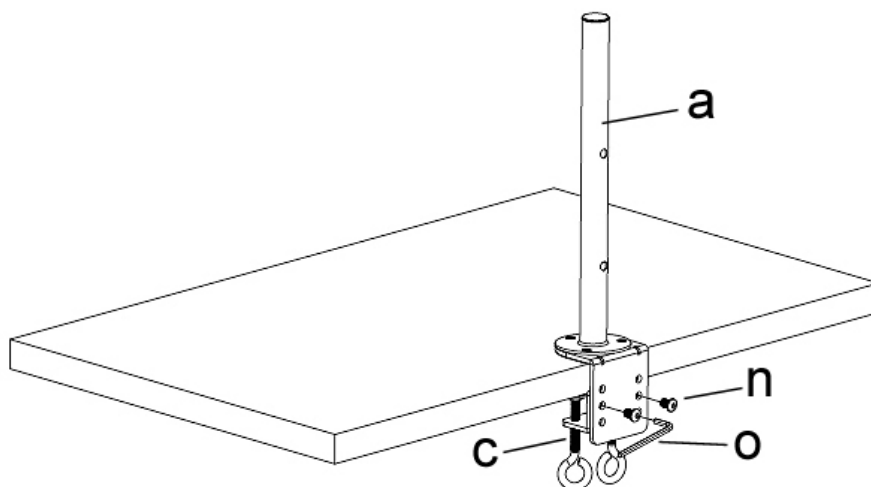

Figure 2
2. Install the C-clamp (c) to the 35mm Tube Support assembly according to the thickness of the desktop. The thickness can be changed in three positions. Connect it using 2 M10x15 Bolts (n) and tighten using the Allen Key (o). Tighten the C-clamp to the desktop using the 2 eye bolts, see Figure 2.